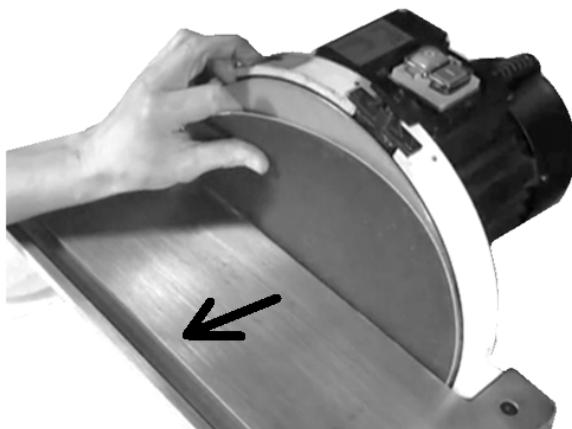
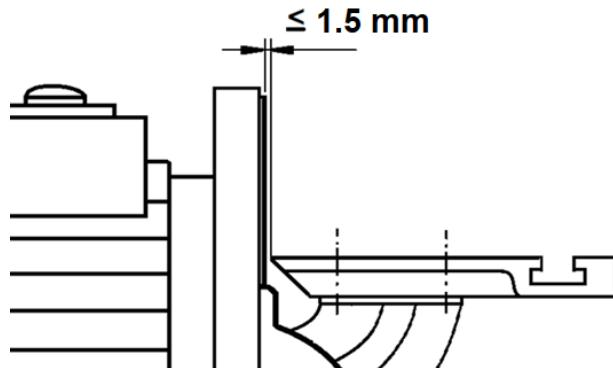
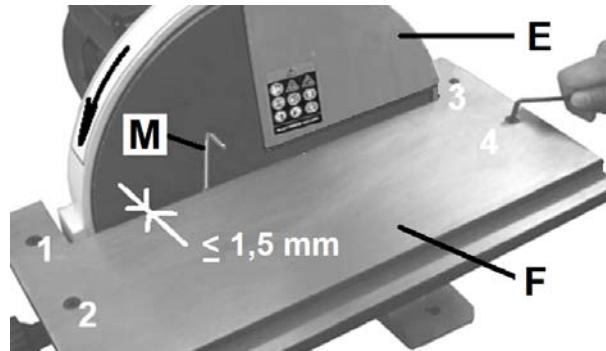

Fig 9
Fig 10
Fig 11
Remove the disc safety guard (E, Fig 11).
Loosen the four bolts (1~4, Fig 11) and remove the table (F) for adequate access (Fig 9).
Align the abrasive disc with the backing plate and press it firmly into position (Fig 9).
To avoid jamming the workpiece or fingers between the table and sanding surface, adjust the clearance between the sanding disc and table, not exceeding a 1.5mm maximum clearance (Fig 10 & Fig 11).
If adjustment is necessary loosen the four bolts (1~4, Fig 11) and move the table into position.